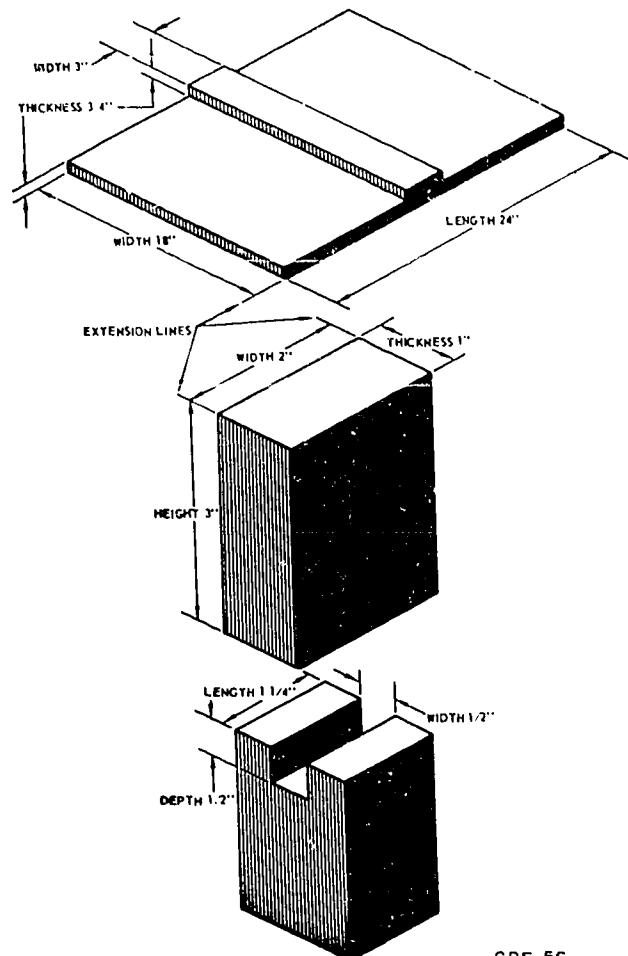

Figure 1-6. Dimensioning terms.
**Length.** This term usually refers to the greatest dimension of an object or the greatest dimension of any part of the object being described. For example, figure 1-6 shows a board to which a cleat has been attached. We speak of the board as being 24 inches in length and, at the same time, of the cleat as being 18 inches in length. In both cases, the length is the greatest dimension of the object.
**Width.** The term "width" usually refers to the dimension of an object from side to side or in a direction at right angles to the length. For figure 1-6, the board is 18 inches in width and the cleat is 3 inches in width.
**Thickness.** This term usually refers to the smallest dimension of any part of the object being described. Thickness can apply either to the main part of the object or to some separate part attached to the object being described. It also can apply to a part projecting from the object; however, it does not apply to a groove that is cut in an object. Figure 1-6 shows us that the board is  $\frac{3}{4}$  inch in thickness and that the cleat also is  $\frac{3}{4}$  inch in thickness.
**Height.** This term is used to indicate a dimension of an object, or a part of it, that rises above either the surface of the object being described or the one on which it stands. For example, if you place a block on a table in a position so that its greatest dimension is upright (standing on end), you would refer to the dimensions as height instead of length. In figure 1-6, the center block is 3 inches high.
**Depth.** Depth is a perpendicular measurement downward from the top surface or backward from the front. Note in figure 1-6, the drawing of a block with a groove in the top surface. We would say this groove is  $\frac{1}{2}$  inch below the top surface of the block.
**Extension Lines.** Usually, the draftsman tries to place all dimensions of an object outside its outline. This is done primarily for neatness and clarity. In figure 1-6, you can see how extension lines are used so that the dimension lines will be understood clearly. The solid lines extend the limits of a dimension out and away from the object and are lighter in weight than the visible outlines.